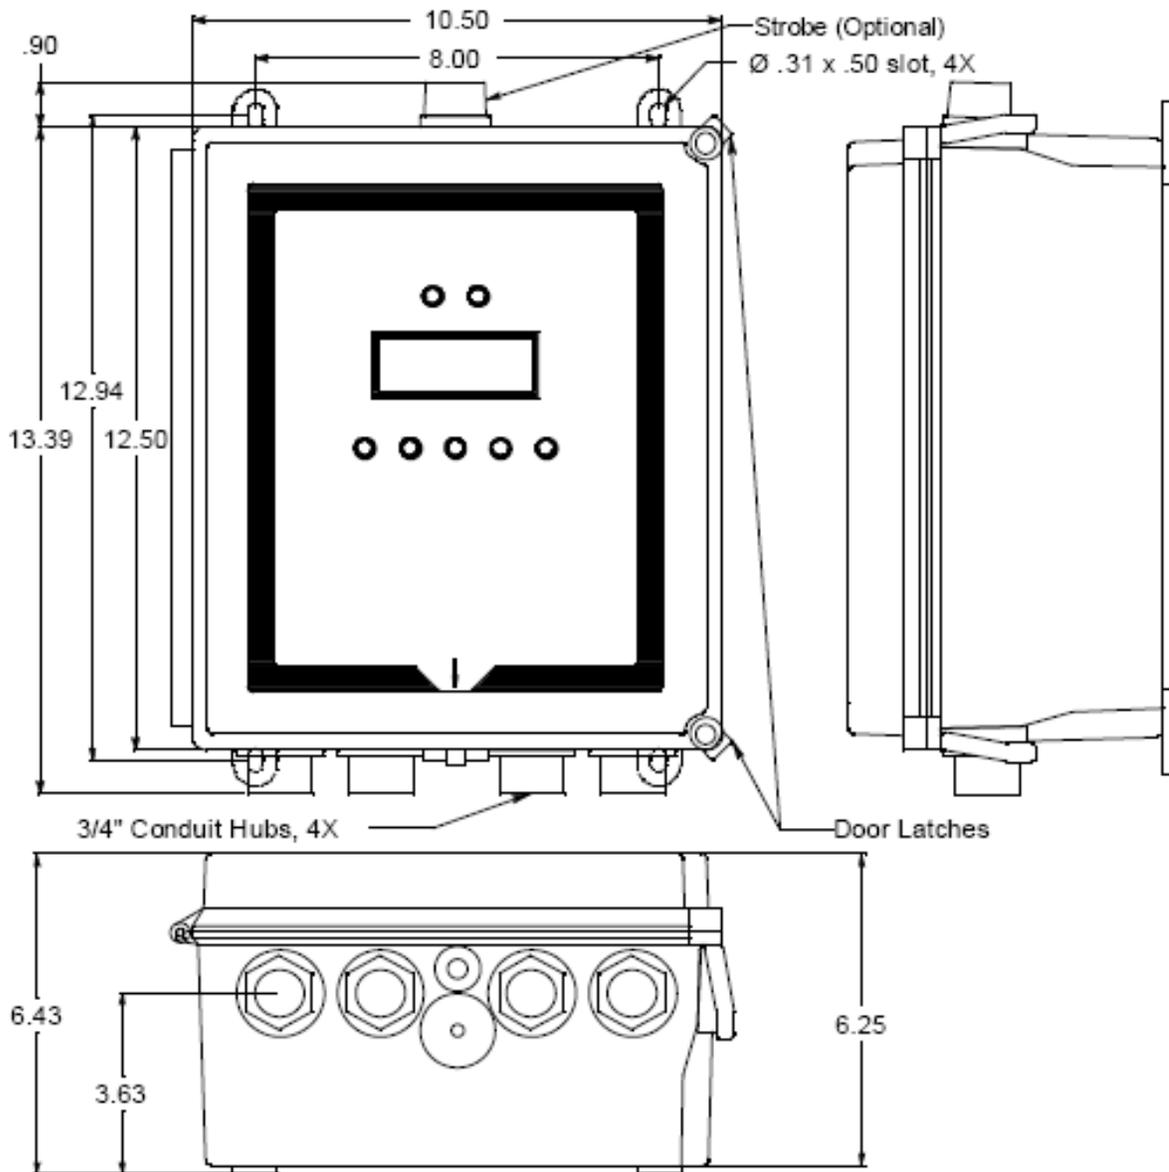

Figure 4: GasScanner 4C Gas Monitor Outline and Mounting Dimensions
4. Prepare the selected mounting site as required to mount the GasScanner 4C. It should be mounted at eye level (4 1/2 to 5 feet from the floor). Refer to Figure 4 for the outline and mounting dimensions.